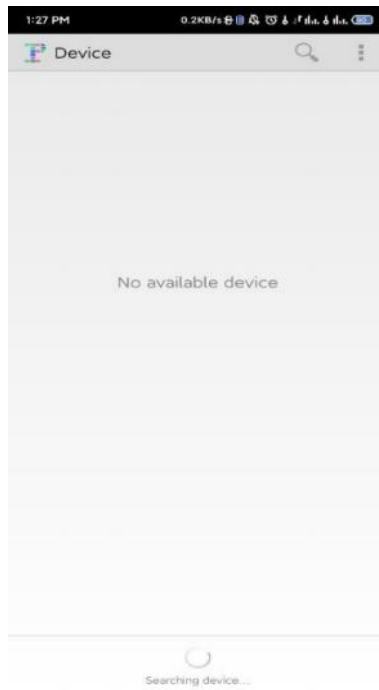

Figure 5-6 Automatically searching for nearby devices
- (1) After the app is started, it automatically searches for nearby devices, as shown in Figure 5-6.